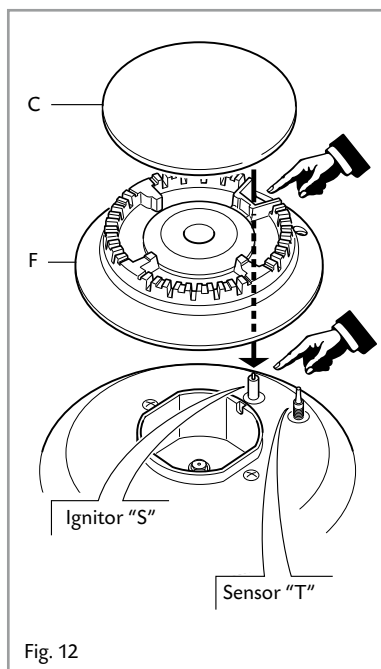

Fig. 12
- It is very important to check that the burner flame spreader "F" and the cap "C" have been correctly positioned (see figs. 12 and 13). Failure to do so can cause serious problems.